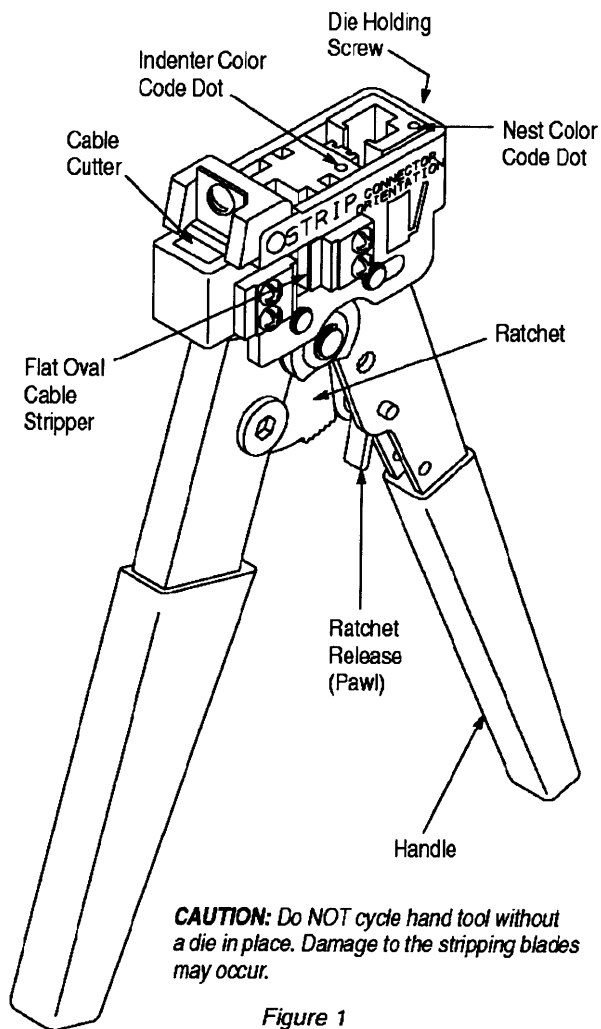

Figure 1
AMP* Modular Plug (Premium Grade) Hand Tool 231652-[], which includes Die Set 853400-[] (shown in Figure 1), terminates modular plug connectors onto stranded or solid, shielded or unshielded—flat oval cable or round cable. The tool also cuts and strips unshielded flat oval cable; other cable must be prepared by separate tools.
2. DESCRIPTION (Figure 1)